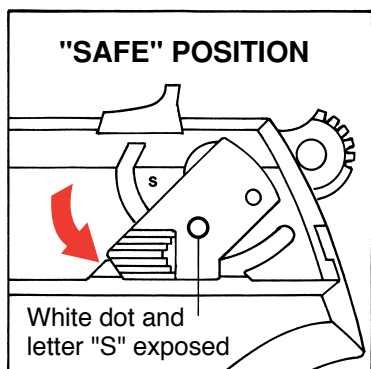

FIGURE 1
To apply the manual safety and decock the pistol, point the pistol in a safe direction. Move either the right- or left-hand safety lever fully to the “safe” position. When the safety is moved fully downward to the “safe” position, the white dot is exposed through the hole in the side of the safety and the letter “S” is completely visible. See Figure 1, p. 11. In this position (1) the firing pin is blocked from moving forward, (2) the hammer is blocked from contacting the firing pin, and (3) the entire firing mechanism is completely disengaged from the trigger. At this point, the hammer will fall to its forward (decocked) position.
The pistol can and should be loaded and unloaded with the safety engaged in its “safe” position (lever fully down, white dot and the letter “S” exposed). **The safety should be in its “safe” position at all times except when the user is deliberately positioned to fire at a selected target.** See Figures 1 and 2, below, which illustrate the two positions of the safety.
2. **Move either the right- or left-hand safety lever fully downward to its “safe” position so that the letter “S” and the white dot are fully exposed.** (See Figures 1 and 2 on page 11.)
The trigger is inoperable when the safety is fully engaged in its “safe” position (lever fully down, white dot and letter “S” exposed; see Figure 1 on page 11).
7. If the pistol is not to be fired immediately, the safety should remain in its “safe” position. (See Figure 1, p. 11.)
1. The muzzle of the pistol must be pointing in a safe direction at all times, and fingers should be outside of the trigger guard. Put the safety in its “safe” position (see Figure 1 on page 11) by rotating the safety fully downward until the letter “S” is fully exposed and the white dot shows. The safety can be engaged whether the pistol is cocked or not.